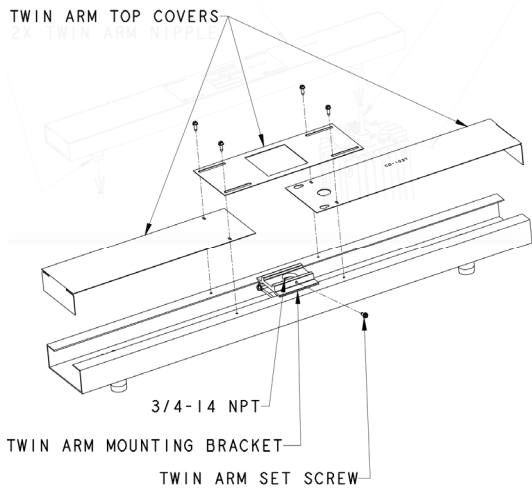

Figure 13.11.1: Twin Arm Exploded View
2. Remove twin arm top covers. (See figure 13.11.1)
6. Re-attach twin arm covers. Slide twin arm mounting bracket until fixture weights are balanced. (See figure 13.11.1) **WARNING FAILURE TO INSTALL TWIN ARM COVERS COULD CAUSE FIXTURE TO FALL RESULTING IN INJURY, DEATH OR SERIOUS PROPERTY DAMAGE**
8. Tighten twin arm set screw to 25-35 in-lb. See figure (See figure 13.11.1).